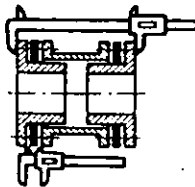

Fig. 7.2
- 5.2.3. Fig. 7.2 check for angular misalignment with slide caliper rule.